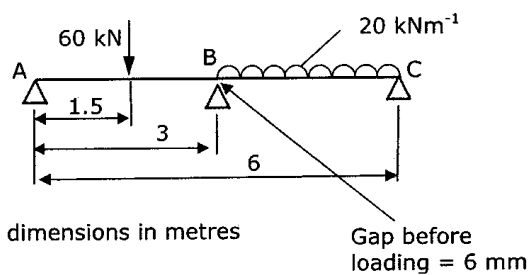

Fig Q2
2. The simply-supported beam, ABC, span length 6 m, shown in Fig Q2, is subjected to a point load 60 kN, 1.5 m from the left end of the beam, and a uniformly distributed load of 20 kNm^{-1} , acting over the right half of the beam. Before loading, the beam has a prop 6 mm below its lower surface at mid span i.e. position B. After loading, the beam comes into contact with the prop.